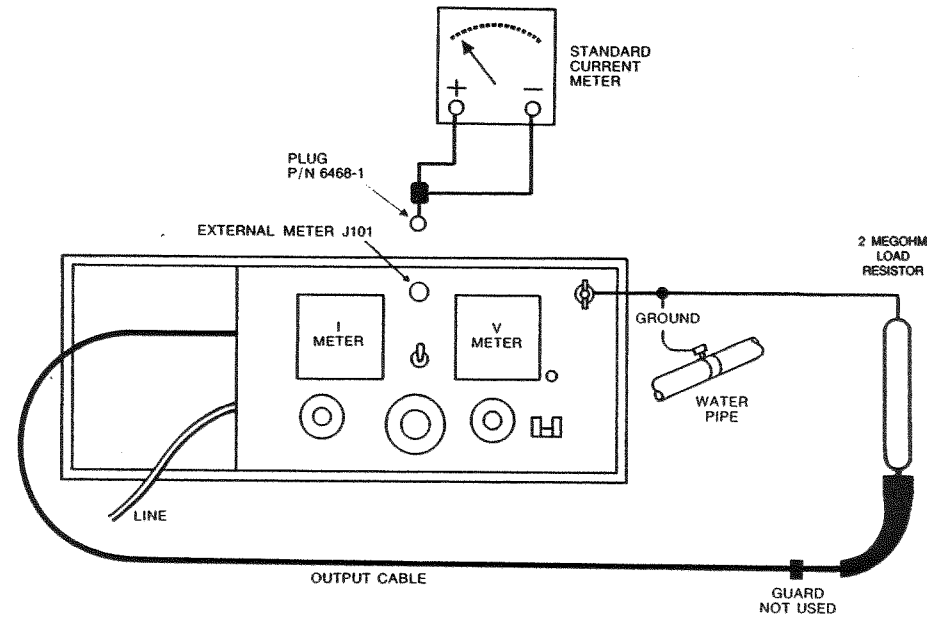

FIGURE 11: Connection for Calibration of Current Meter.
1. Connect the test set as shown in Figure 11.